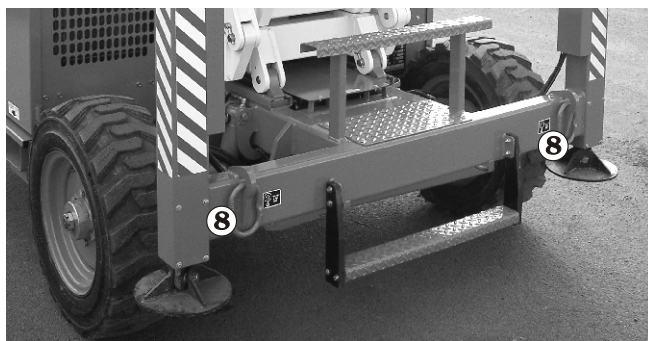

Figure 10.8 - Tie-down Lugs
Always attach chains to the front and back tie-down lugs ⑧ (see Figures 10.8 and 10.9).